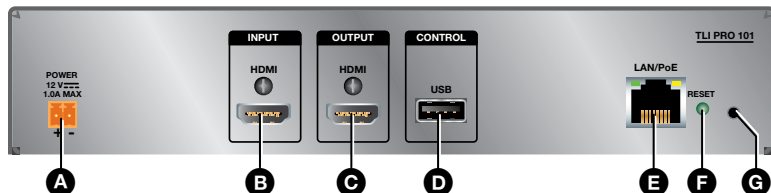

Figure 1. TLI Pro 101 Rear Panel
- **Use factory firmware:** Press and hold the **Reset** button (Figure 1, **G**) while applying power to the unit. Use this mode to replace firmware in the event of firmware failure.
- **Reset All IP Settings:** Press and hold the **Reset** button for 6 seconds. After the Reset LED (Figure 1, **F**) flashes twice, release and momentarily press the **Reset** button. Use this mode to reset all network settings without affecting user-loaded files.